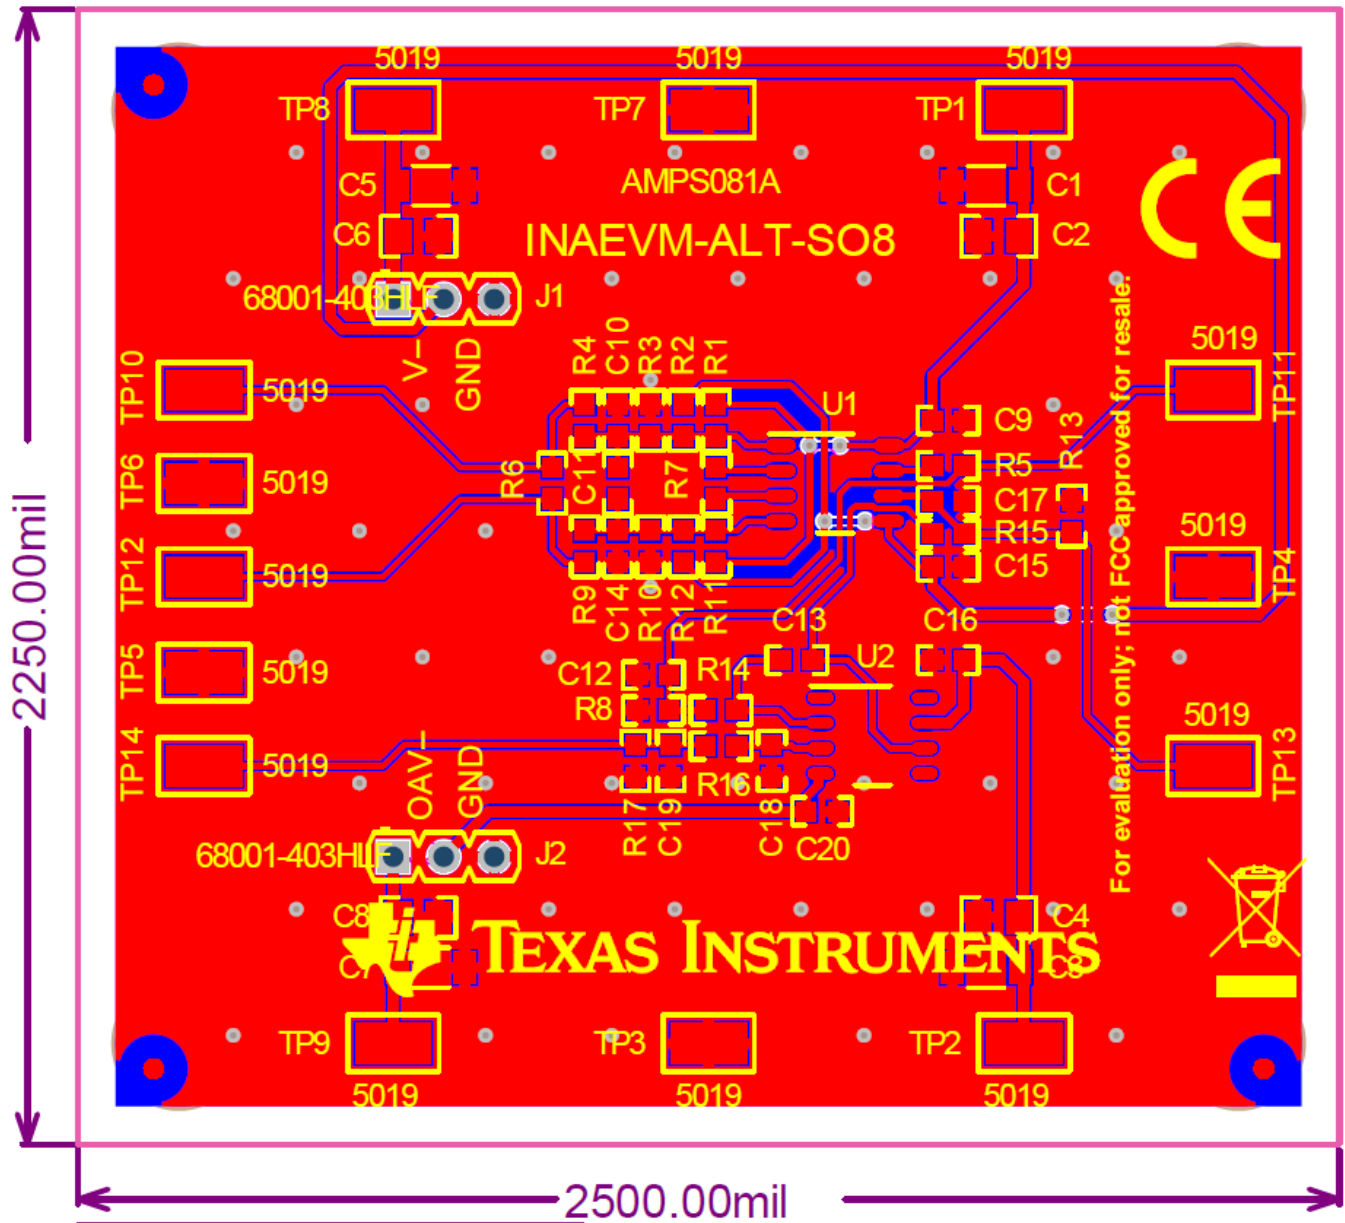

Figure 7. Universal INAEVM-ALT-SO8 PCB
The component PCB layout for the SOIC-8 EVM is shown in Figure 7.
**NOTE:** Figure 7 is intended to show how the board is laid out; it is not intended to be used for manufacturing PCBs.